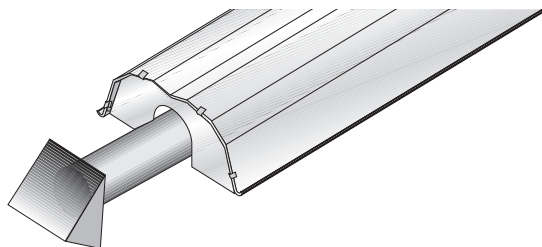

Figure 18. Vent Terminal for Unvented Unit
- The heater may be installed unvented in accordance with building ventilation codes and with the Clearances section if sufficient ventilation is provided in the amount of 4 CFM (US) or 3 CFM (Canada) per 1,000 BTU_h firing rate.
- A turndown-type vent terminal (see Figure 18) with a screen and without a backdraft flap must be installed at the exhaust end of the tube.